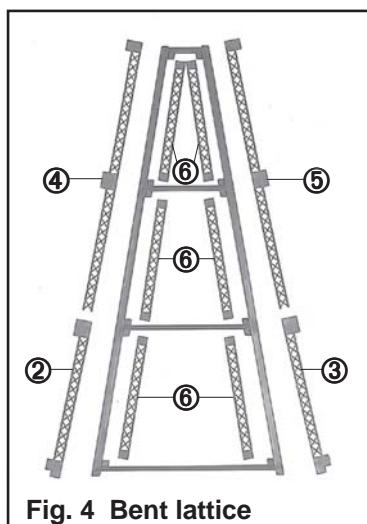

Fig. 4 Bent lattice
2. If building the three story bents instead of the full tower assembly, trim off the two gusset plate extensions from parts (2), (3), (4), and (5). See figs. 4, 5, & 8.
3. Cement the **outside bent lattice**, parts (2), (3), (4), and (5) to the bent assembly. Figure 4 shows their general position. (For clarity, the parts are shown flat in figure 4, they would actually be on edge if cemented to the bent halves.)
4. Trim the excess plastic from the gusset plates of parts (6), (7), (8), and (9) but not (10). **Important:** See **II Special Notes** on page 1.
5. Cement the **inside bent lattice** parts (6) to the bent assembly. Figure 4 shows their general position.